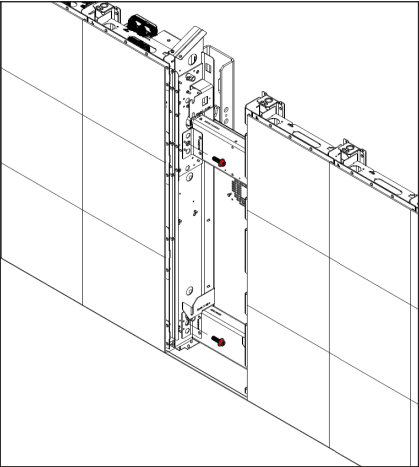

Figure 6: Install Interconnect Hardware
- 7. Install the supplied M12 interconnect hardware into the adjacent cabinet. Refer to **Figure 6**.